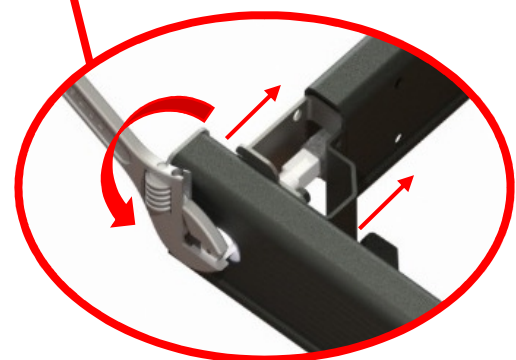

Figure 80
10) Secure everything in place by sliding a 5/16-18-2 hex cap screw through each of the 2 holes and put a 5/16-18 hex lock nut from the other side. (Figure 80)